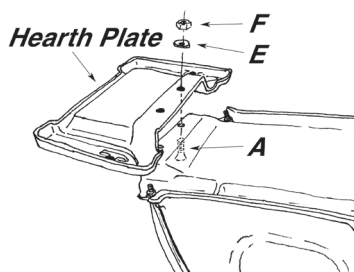

Figure 2 – Hearth Plate Assembly
4. Attach hearth to bottom of stove, figure 2, with two short stove bolts (A), washers (E), and hex nuts (F).